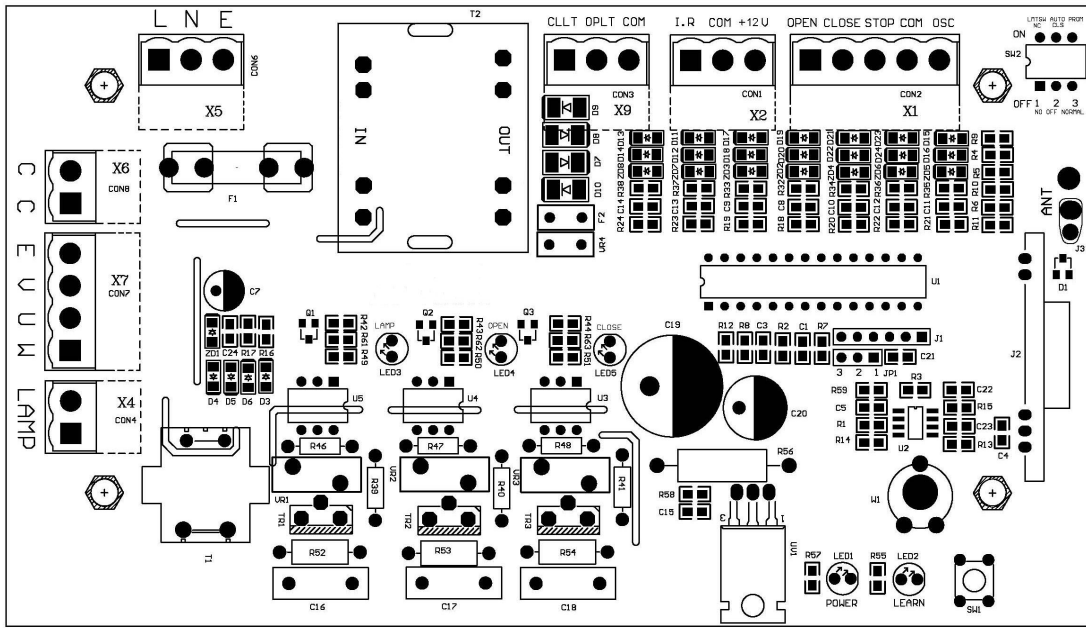

Fig.8
Remove the cover, perform the wiring (See Fig.8 and wiring notes for control board) and replace the cover again.
- Adding extra remote controls (Learn): Remove the cover, press the learn button 'SW1' (Fig.8), then the 'LED2' (Fig.8) will be on and turn off, then press the remote control button which you want to use, the 'LED2' will turn on about 2 seconds and then turn off again. The learning process is finished. Up to 100 remote controls may be used.
- *Set auto-close function:* (This feature can be selected to make the gate stay open for some seconds before it automatically closes. The auto-close time can be adjusted to between 0 and 44 seconds.): Turn on the second and the third DIP-switch (See Fig.8) to ON position. Press the remote control button (button 1, button 2 or button 3) that has been programmed to open the gate (see **Verify open direction** section). Stop the gate at any position by pressing the same button, wait a few seconds according to your requirements (the range is 1~44 sec.), this period of time is regarded as 'auto-close time'. Close the gate by pressing the same button. Press the button again to stop the gate or the gate will stop automatically at its closed position if the limit switch is reached. After this setup is complete, return DIP-switch 3 to OFF position immediately. Thus the **auto-close function** has been set.
- *Cancel auto-close function:* Turn on the second and the third DIP-switch (see Fig.8) to ON position. Press the remote control button (button 1, button 2 or button 3) that has been programmed to open the gate (see **Verify open direction** section). Stop the gate at any position by pressing the same button, wait until the gate close automatically (45 sec.). Press the same button to stop the gate or the gate will stop automatically at its closed position if the limit switch is reached. After this setup is complete, return DIP-switch 3 to OFF position immediately. Thus the auto-close function has been canceled.
- *Adjustment of the auto-reverse function:* rotate the 'W1' knob (Fig.8) by hand, the resistance may be increased or decreased by rotating clockwise or counterclockwise. Note: if the gate fails to reverse in the event of obstruction, then the opening force or closing force should be checked for conformity with requirements and adjusted accordingly. The gate will reverse if obstructed when closing, and will stop if jammed when opening.